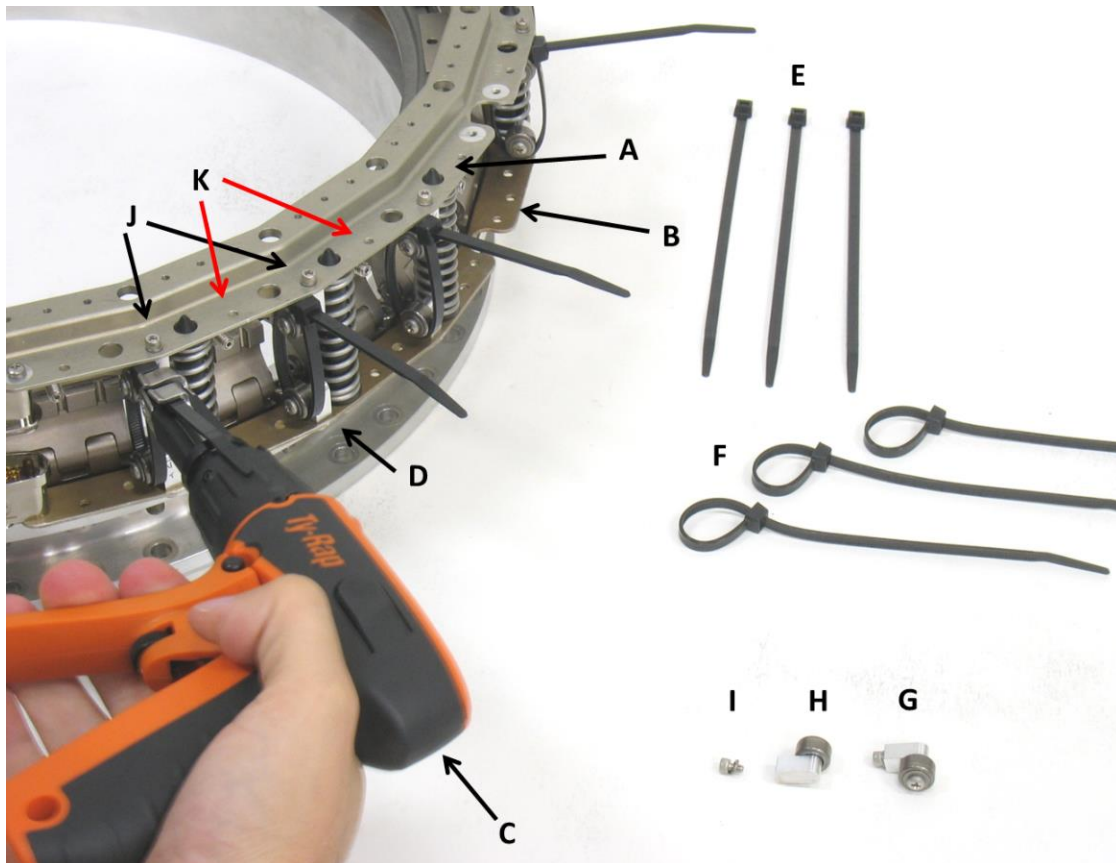

Figure 18-1: LCT Equipment
Figure 18-1 shows the individual equipment necessary to operate LCTs and also the LCTs installed on the Lightband. See Table 3-6 for a detailed equipment list.
18.2.2	<p>Attach one half of the LCT pairs to the Lightband Upper Ring flange. Only use the outboard corner holes of the flange shown in Figure 18-1 and locate each LCT as close to a Separation Spring as possible. Restrain the LCT with a 1/4 inch open-end wrench while torquing the screw with a 3/32 inch hex key as shown in Figure 18-2.</p> <p>Torque screws 10 to 12 in-lb total. Maximum running torque is 8 in-lb.</p> <p>Note: An LCT placed between adjacent Separation Springs must be rotated outward to ensure the LCT's bearing clears both Springs. Since the LCT will now protrude radially outward from the Lightband's default stayout diameter, ensure this protrusion is acceptable for both the payload and LV.</p>
18.3.4	Measure the distance between Upper and Lower Ring flanges (A and B in Figure 18-1) next to each LCT and record in Table 18-1. For reference the nominal uncompressed distance is 2.13 inch for the dimension shown in Figure 8-9. Lightly tighten each cable tie until the flange distance measures 2.00 to 2.05 inch at every LCT (1). Note: Failure to evenly compress the Lightband increases probability of breaking cable ties.